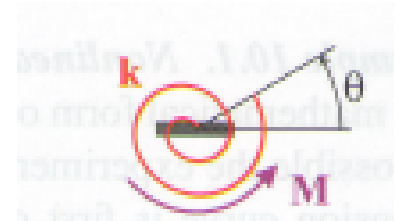

Fig. 10.9. Torsional spring subjected to a moment, M .
- Angular motion, θ , under the action of an externally applied torque, M (Fig. 10.9)